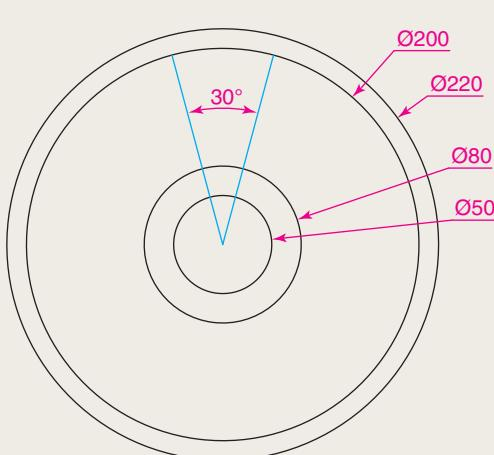

Fig. 5.49 Exercise 4 – circles and lines on which the exercise is based
4. Construct the circles and lines in Fig. 5.49. Using **Offset** and the **Ttr** prompt of the **Circle** tool followed by **Trim**, construct one of the outlines arrayed within the outer circle. Then, with **Polyline Edit** change the lines and arcs into a pline of width = 0.3. Finally array the outline twelve times around the centre of the circles (Fig. 5.50).